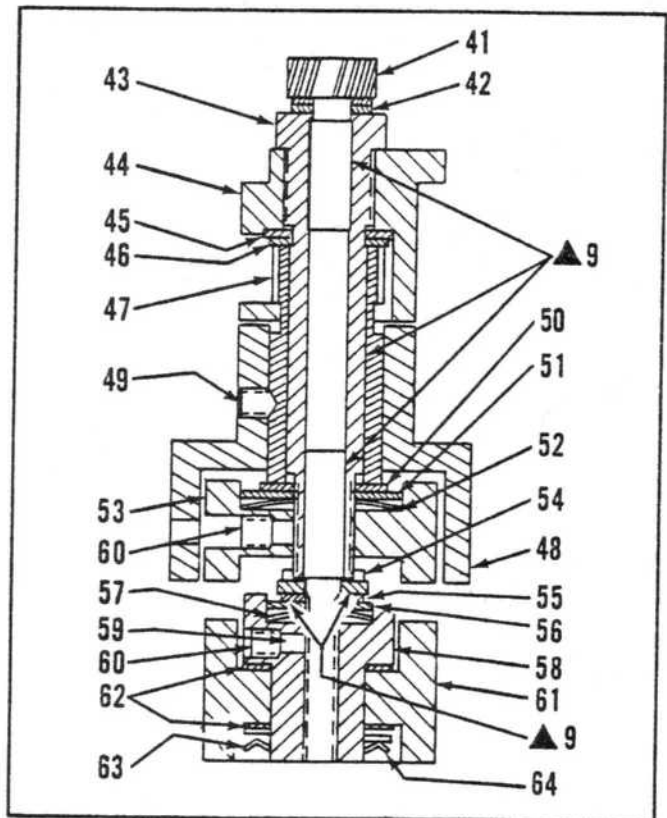

Figure 13 Control Assembly
5.5 Assembly of Stage Control Group (#41 to #64) (Figure 13)